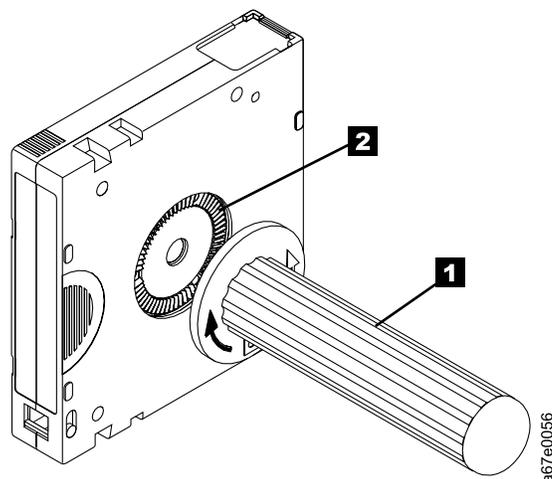

Figure 15. Rewinding the tape into the cartridge
5. To rewind the tape, insert the cartridge manual rewind tool ( **1** in Figure 15) into the cartridge's hub ( **2** ) and turn it clockwise until the tape becomes taut.